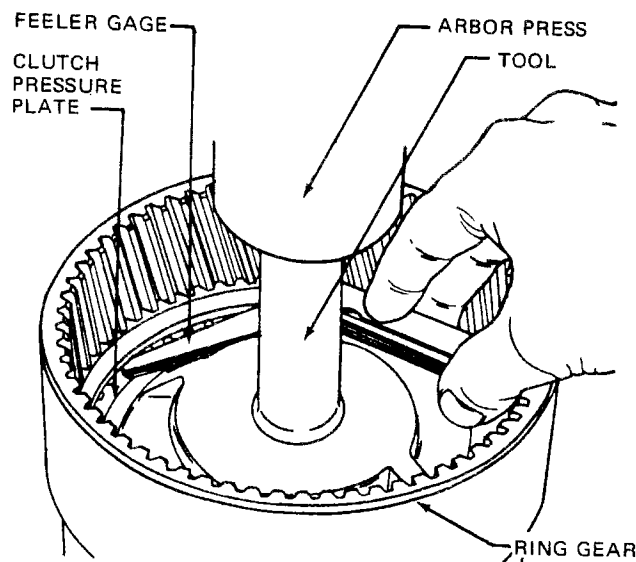

Fig. 5 MEASURING GAP FOR SELECTIVE SNAP RING
15) Clutch assemblies use a selective snap ring (70) which must be selected and installed between the pressure plate and ring gear web. Position clutch and ring gear on a bench with external teeth of ring gear resting on bench. Press down lightly on clutch pack while a feeler gage is used to determine the clearance between pressure plate and ring gear web, fig.5. Select a snap ring to reduce this dimension (clutch pack clearance) to .035-.055 inch (0.89-1.40 mm) on seven plate clutch and .018-.053 inch (0.46-1.35 mm) on five plate clutch, see MB 41. Two of the thinnest rings may be required.